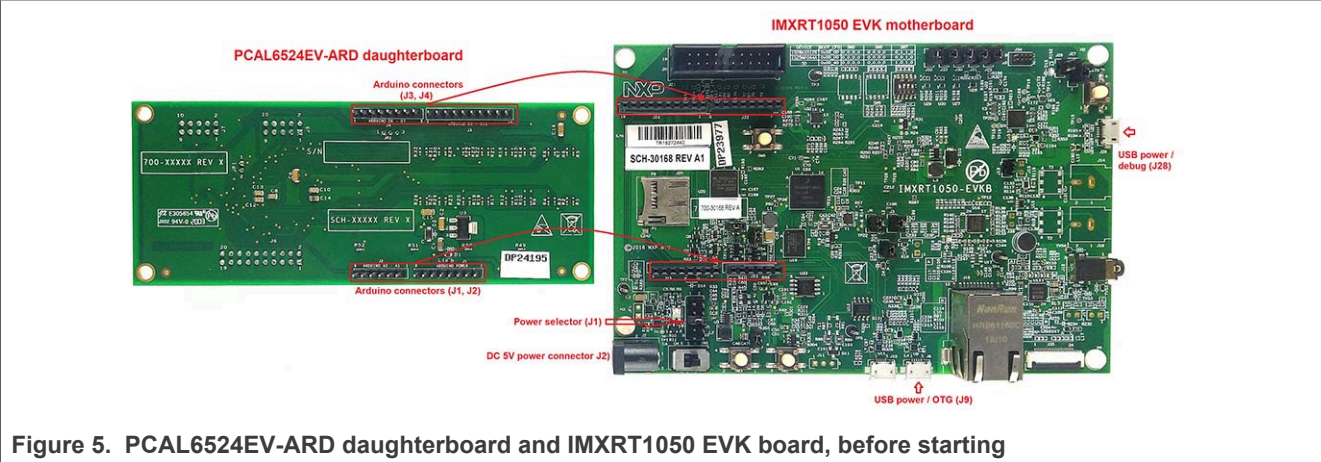

Figure 5. PCAL6524EV-ARD daughterboard and IMXRT1050 EVK board, before starting
Figure 5 shows the required hardware for operation of the PCAL6524EV-ARD daughterboard with IMXRT1050 EVK. The following items are necessary:
From J1 on the EVK board (see Figure 5) the user can select the power configuration for the motherboard. For further details, refer to the IMXRT1050 EVK Board Hardware User Guide.
2. Insert the PCAL6524EV-ARD daughter card on the Arduino connector of the EVK (see Figure 5).